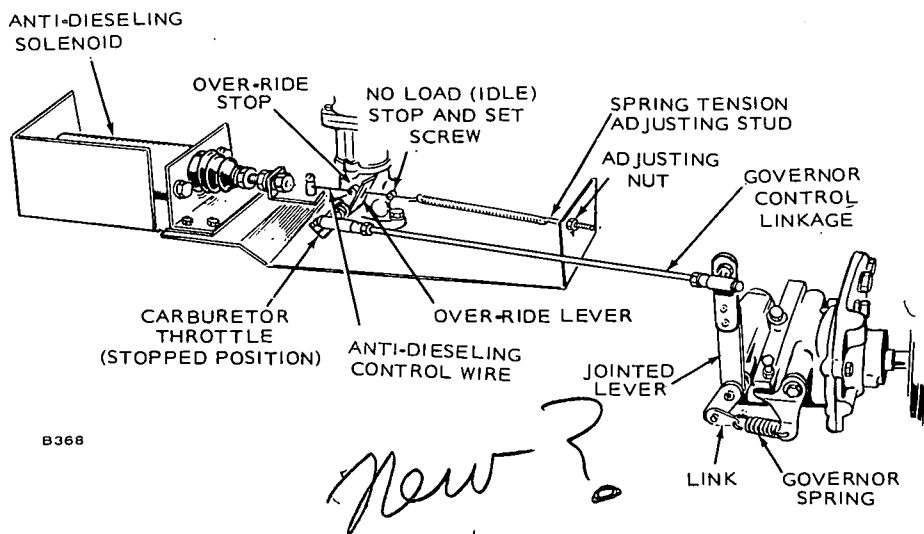

FIGURE 32. ANTI-DIESEL CONTROL
2. **Anti-diesel control**—Move override and no load stops (set screws on wire link, Figure 32) away from override lever so that they have no effect on engine speed.
- See that the wire linkage is securely attached to the solenoid plunger. Do not shorten or lengthen this connection unless the spring tension at the opposite end cannot be fully adjusted by its stud. See Figure 32.